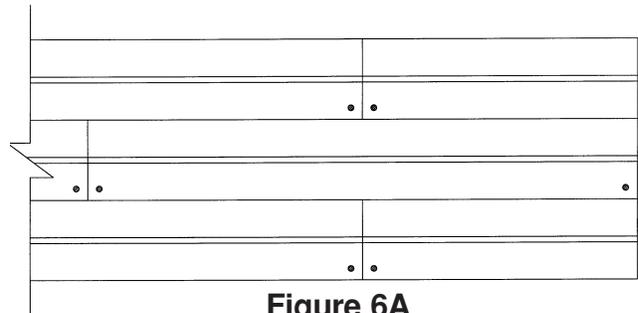

**Figure 5**
**How:** Quik Trak™ panels are laid out over a plywood subfloor (see page 15). Make sure to stagger the seams of the Quik Trak™ as shown in **Figure 5** on page 16. Panels should be secured to the subfloor with 1¼" screws. To start, secure one side of the panel with a screw on each end. This allows for quick realignment if needed. When the panels are properly laid out, secure each panel with 10 screws, five on each side of the groove for full length panels.
Make sure to stagger the seams of the Quik Trak™ as shown in **Figure 5** on page 16. Panels should be secured to the plywood with 1 1/4" screws. To start, secure one side of the panel with a screw on each end. This allows for quick realignment if needed. When the panels are properly laid out, secure each panel with 10 screws, five on each side of the groove for full length panels.
3. To improve structural integrity, stagger the panels in each row so the seams are not lined up next to each other. If you have to cut the last panel in the first row, you can use the other cut piece to start the second row. As an alternative, you may cut a panel in half and begin the second row. Continue this staggered pattern throughout the installation (see **Figure 5**).